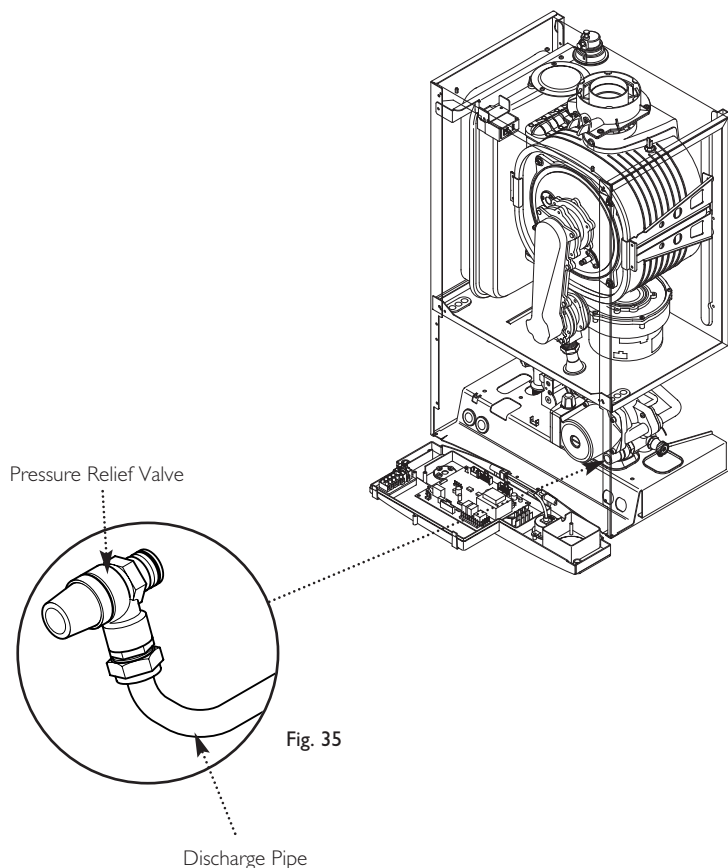

Fig. 35
10.4 Fitting the Pressure Relief Discharge Pipe (Fig. 35)